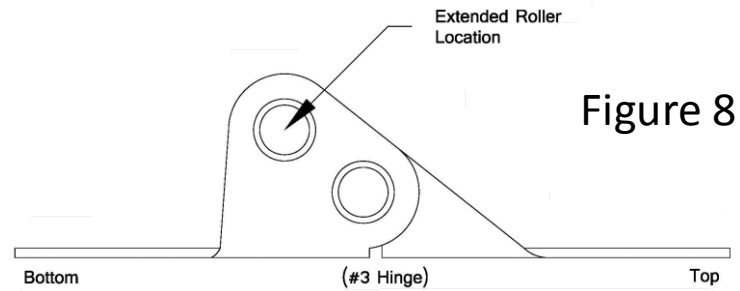

Figure 8
14. Remove rollers from hardware box and insert into bottom fixtures and extended roller locations (Figure 8) on end hinges of each section.